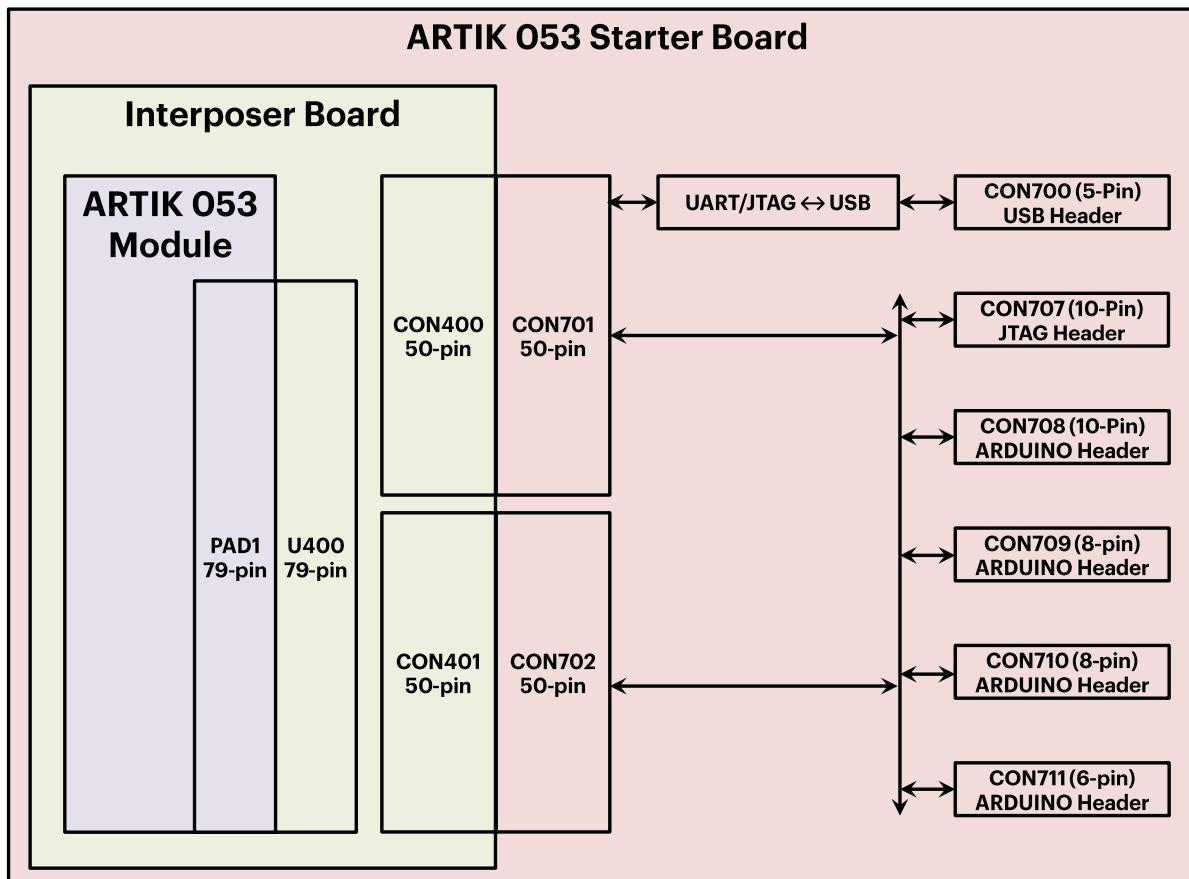

Figure 2. Signal and header block diagram
*Figure 2* shows the block diagram of how the signals and headers of the ARTIK 053 Starter Kit are connected. For more information on the ARTIK 053 Module, consult the ARTIK 053 Module Datasheet.